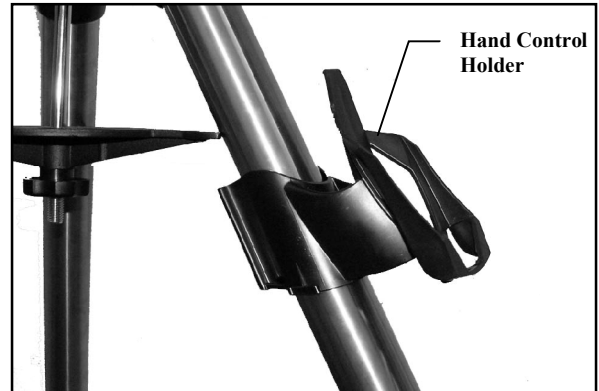

Figure 2-6
2. Slide the back of the hand control holder downward into the channel on the front of the legs clamp (see Fig 2-6) until it snaps into place.